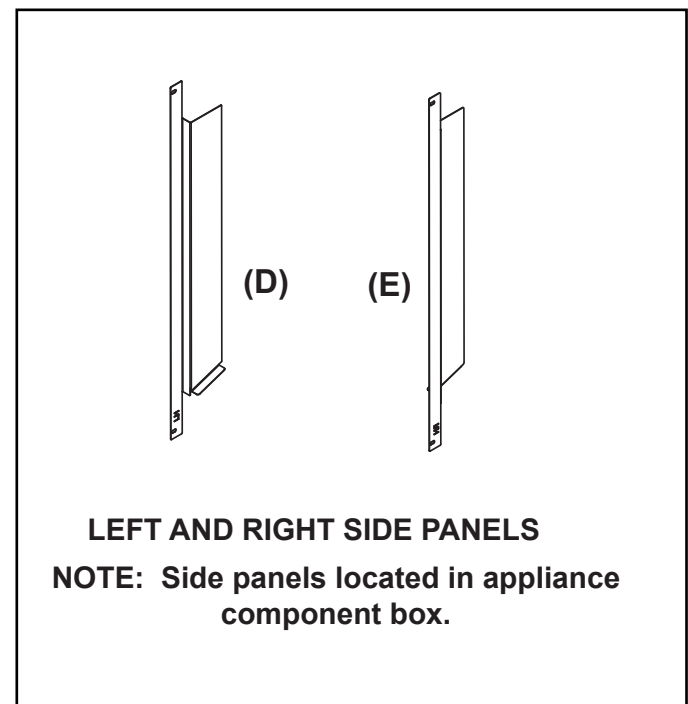

Figure 3 Side Panels Overview
2. Remove mounting bracket assembly and bend the mounting bracket assembly vertically to separate the left and right brackets (B and C). See Figure 3.
Discard screws and shipping brackets. See Figure 3.
3. Remove side panels (D and E) from appliance component box. See Figure 3.